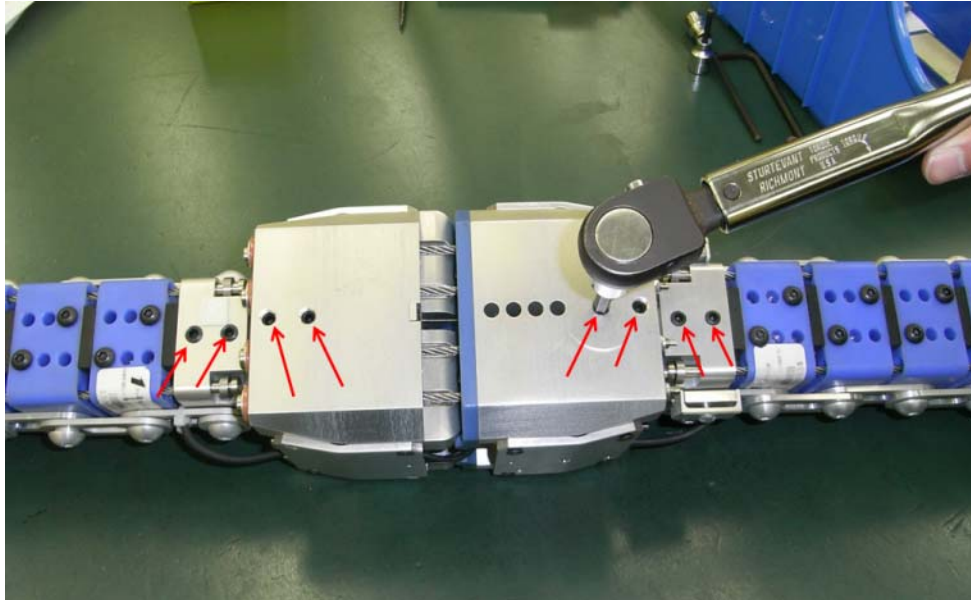

Figure 89 . Check screws with 8 Nm torque
Step 2: Check the eight M8 set screws shown in Figure 89 are tightened to 8 Nm;
Step 2: Check the eight M8 set screws shown in Figure 89 are tightened to 8 Nm.